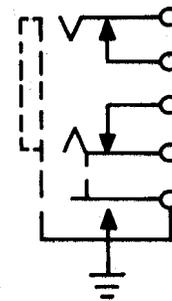

Fig. 10—511A Jack
2.10 511A: The 511A (Fig. 10) is a unit-type jack. This jack is designed for strip-type mounting and is used with the 309 or similar-type plugs. The 511A jack is used with the 259A or 260A jack mounting and furnished only on orders for jack mountings. The contact springs are equipped with standard bar-type contacts of No. 2 metal. The terminals are designed for mechanically wrapped connections. The 511A jack is used as a manual station line jack of the 608A PBX. Connection to ground is accomplished by assembling the jack to the mounting strip of the associated jack mounting. The mounting strip is equipped with terminals for grounding purposes.